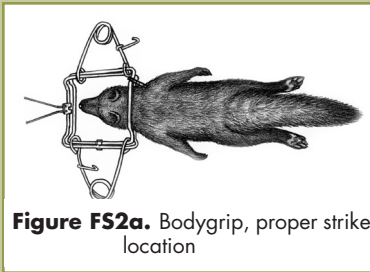

Figure FS2a. Bodygrip, proper strike location
- Should be placed so that the rotating jaws capture the animal by closing on the top and bottom of the animal's neck (Figure FS2a)